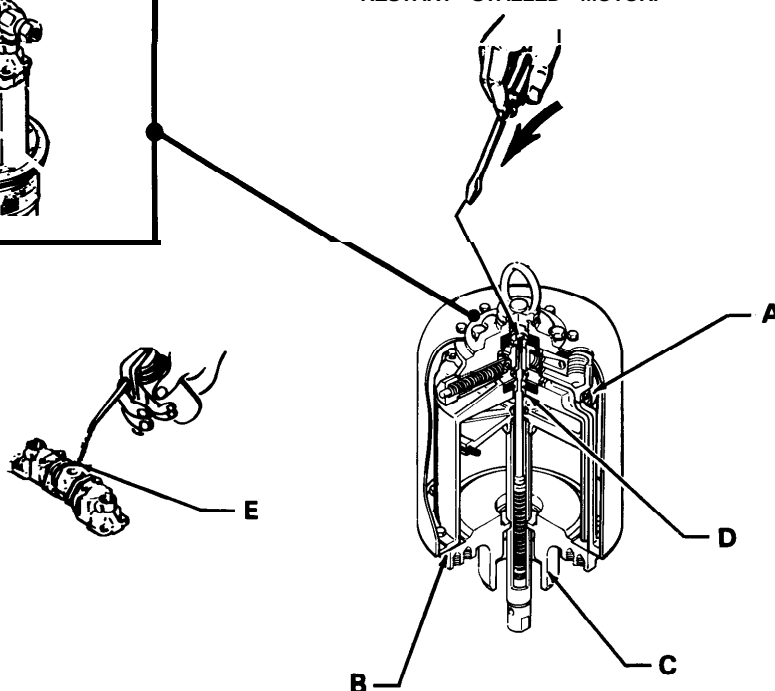

Fig 2
2. Screw the inlet union (117) out of the air manifold (87).
3. Remove the air motor shield (73) and screw the inlet union (117) back into the manifold (87). See Fig 2.
If anything more than a light film of fluid is detected at the weep hole, the base bearings gasket (100) or both the gasket and base bearing (98) need to be replaced. See Fig 2.
2. Remove the lift ring (74).
3. Push down the air valve housing (102) with a screwdriver. **DO NOT** use your fingers! See Fig 2.